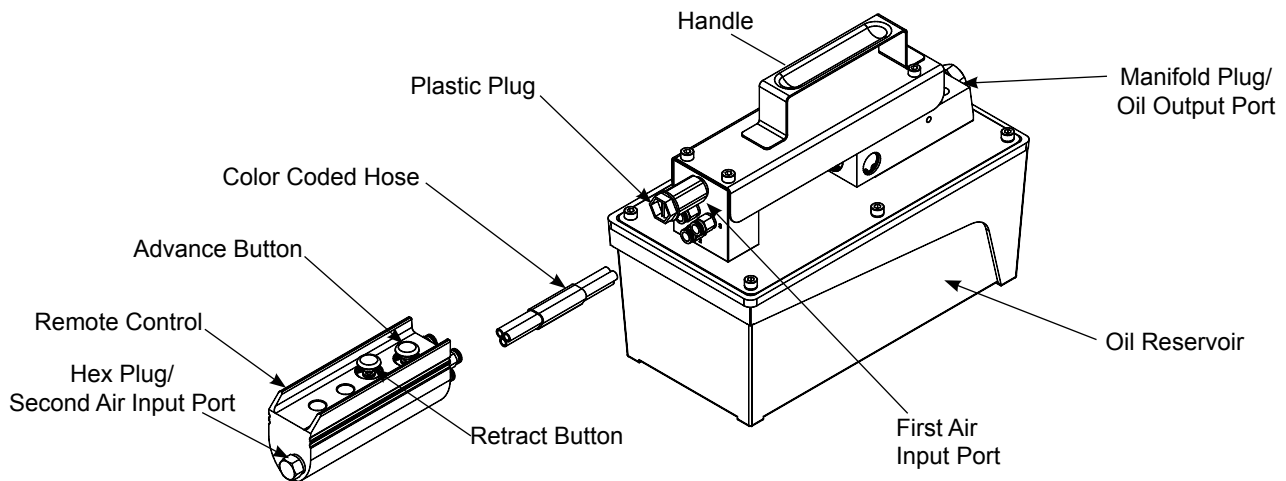

Figure 1 - Model PA1500L & PA3801L Components (PA1500L shown)
1. Air connection: Remove plug from first or second air input port (refer to figure 1) and connect to adequate air supply. Install hex plug on unused air input port to prevent air leakage.